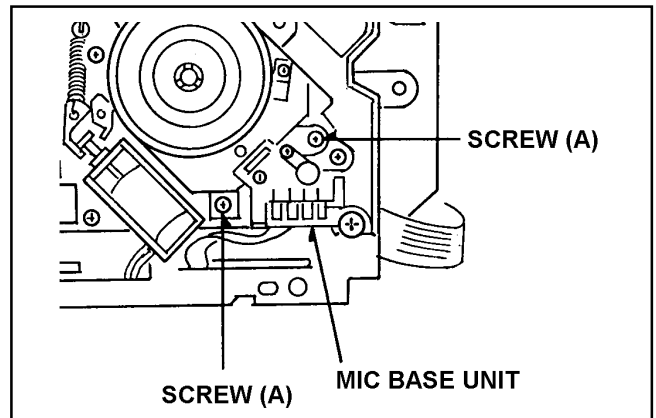

Figure 5-21
2. Unscrew the 2 screws (A) and remove the MIC Base Unit as shown in Figure 5-21.